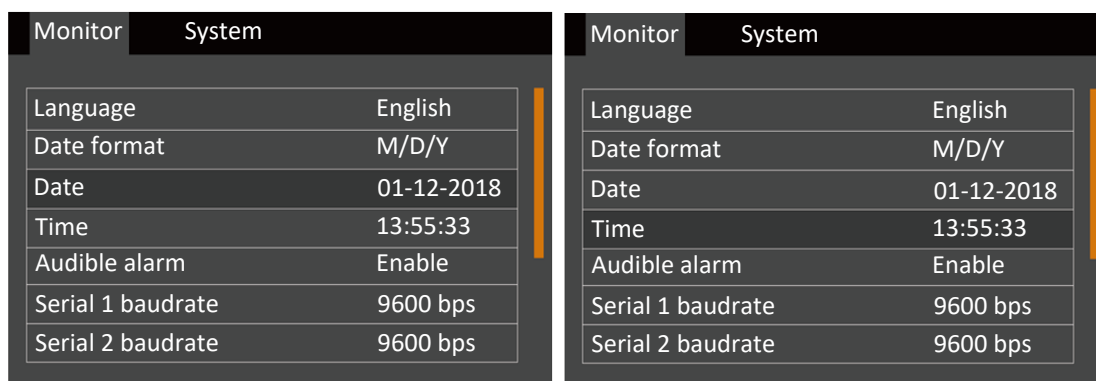

Figure 5-18 Selection of Date and Time
3. Press the  key and press the  or  key to highlight the date and time, see Figure 5-18.